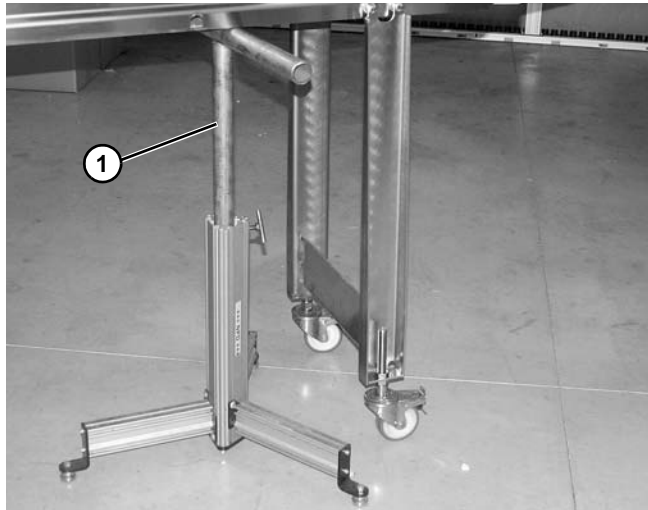

Figure 95
19. Place temporary support stands (**Figure 95, item 1**) at both ends of the conveyor. Place an additional support stand under the drive motor, if equipped. See WARNING.